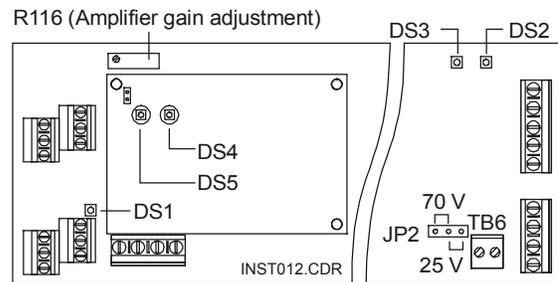

Figure 4-10: SIGA-AA30 or SIGA-AA50 Audio Amplifier
4. Adjust R116 to 25 V_{rms} or 70 V_{rms} (Figure 4-10).